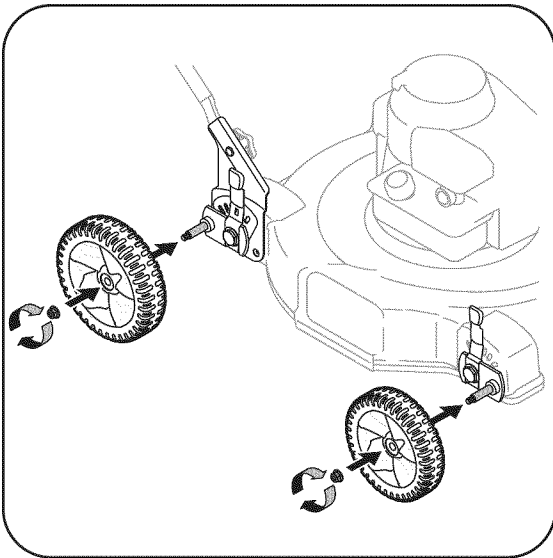

Figure 3-8: Install the wheels.
2. Place the larger two wheels on the rear pivot arm axles and secure with the flanged lock nuts, Figure 3-8.
3. Repeat with the two smaller wheels on the front pivot arm axles, Figure 3-8.